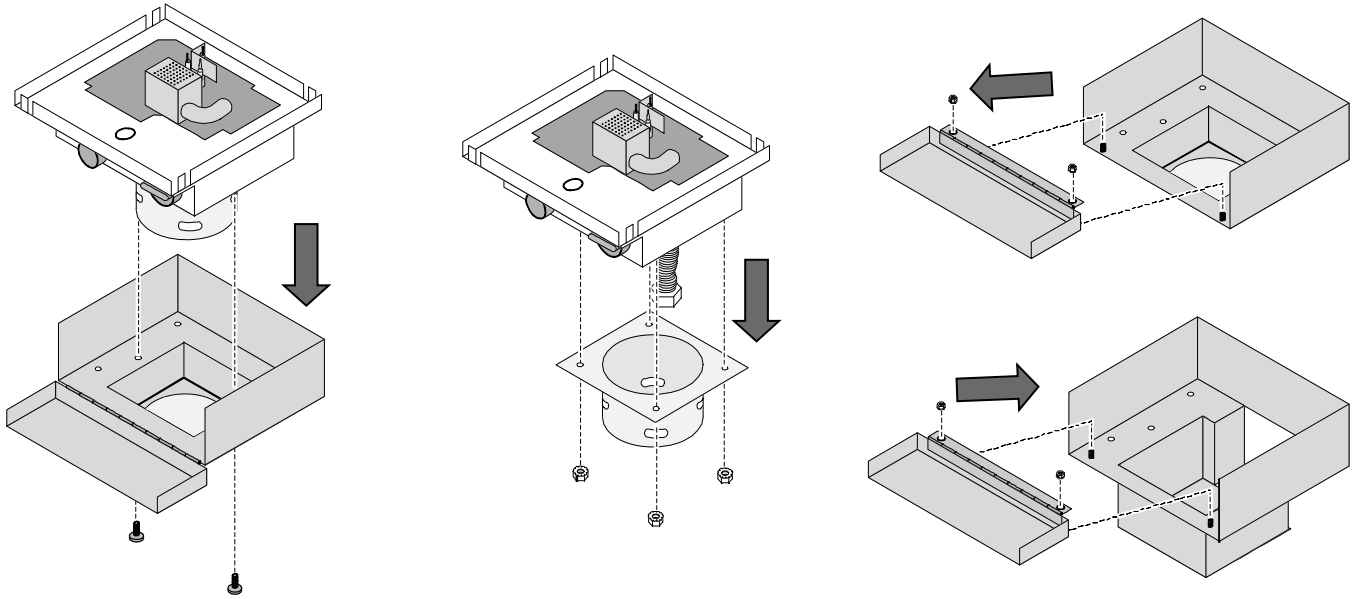

Figure 9
6. Remove the control cover and mounting bracket on the bottom of the tempest torch head (see Figure 9). Keep the screws and nuts. Remove the hinged control cover from the front of the stock cover and install it on the cover included with the wall mount kit.